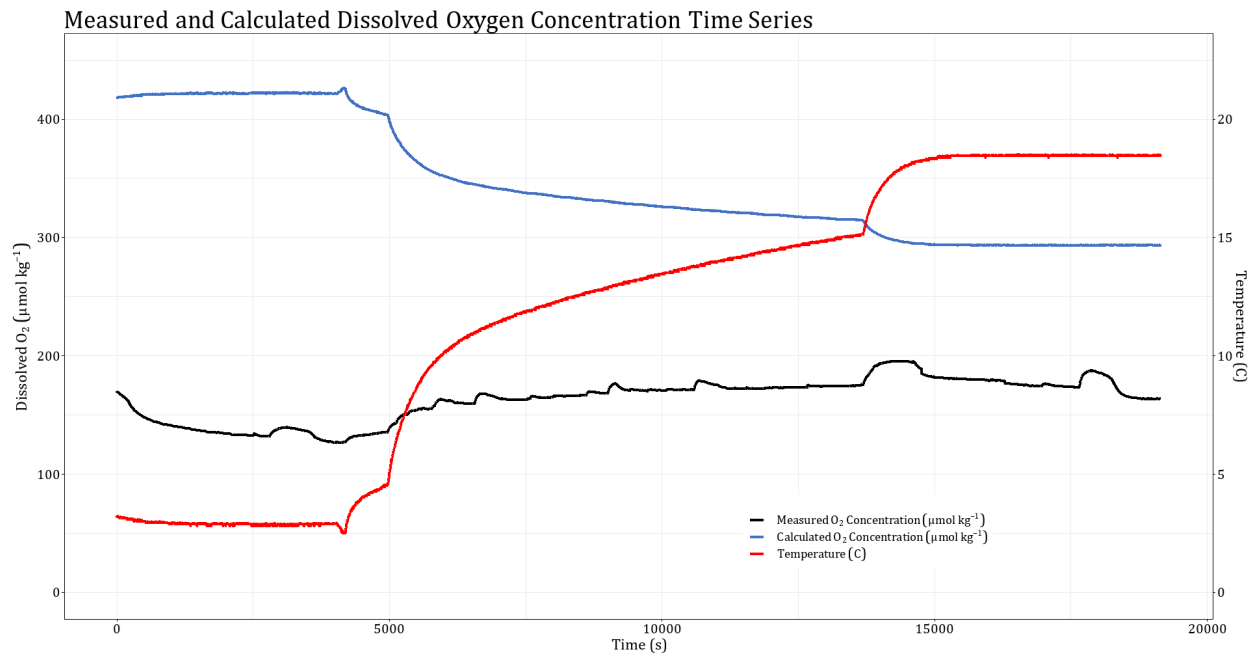

Figure 16. Dissolved oxygen calibration curve. This test was conducted after the sensor membrane was damaged.
Step 4. Load the test data onto the computer. Change the file path and filename in *calibrations\_markdown\_Rmd* to the appropriate values to visualize the relationship between temperature, oxygen concentration at saturation, and measured oxygen concentration as in Figure 16.